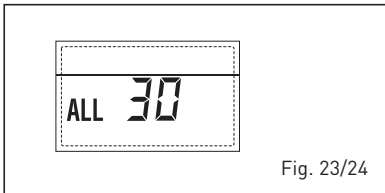

Fig. 23/24
- CASCADE DELIVERY SENSOR ANOMALY "ALL 31" (fig. 23/25)